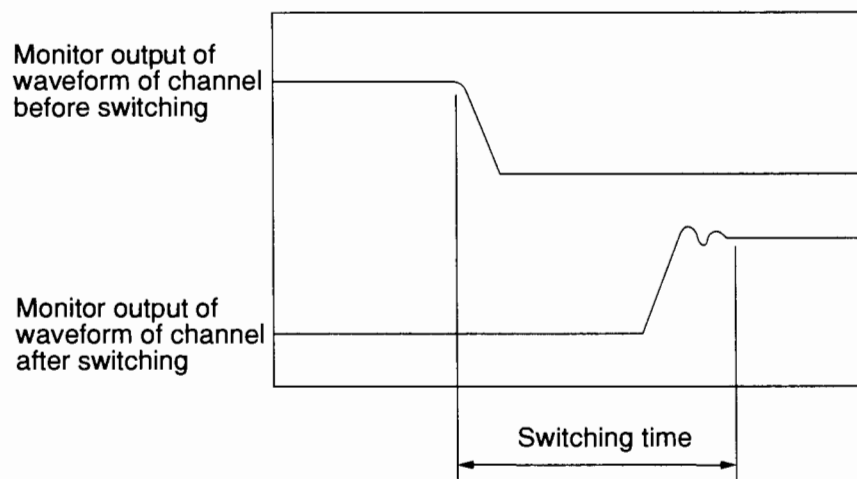

Figure 6-5
- (2) Switch the channels and observe the output of the waveform monitor with the storage oscilloscope. The time period from the point at which the light output of the channel before switching in Figure 6-5 begins to decrease to the point at which the light output after switching is stabilized is the switching time.